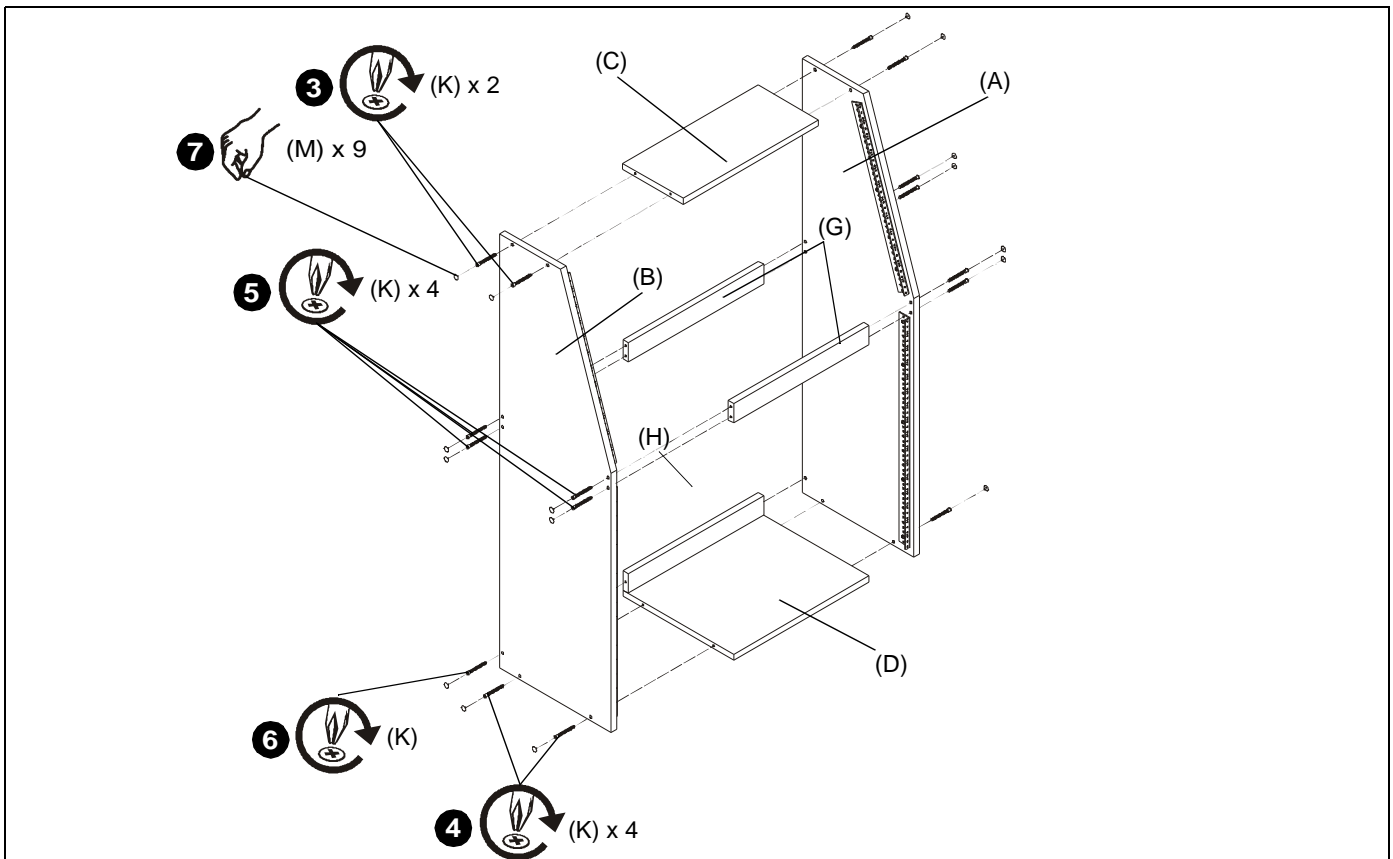

Figure 2
3. Secure rack top (C) to one side panel using two M7x70mm Phillips confirmat screws (K). Do not overtighten! (See Figure 2)
4. Secure the rack bottom (D) using two M7x70mm Phillips confirmat screws (K). Do not overtighten! (See Figure 2)
5. Secure two upper cross braces (G) to the front and back of the side panel using four M7x70 Phillips confirmat screws (K). (See Figure 2)
6. Secure rear cross brace (H) to the bottom of the side panel using one M7x70 Phillips confirmat screws (K). (See Figure 2)
7. Install nine caps (M) to installed confirmat screws (K). (See Figure 2)
8. Install remaining side panel (A) to the other side following Steps 3-7.